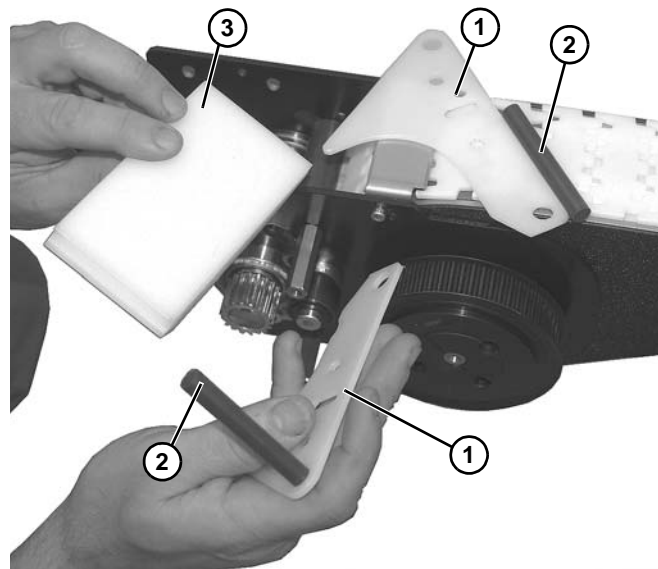

Figure 168
11. Disassemble side guide plates (**Figure 168, item 1**), wear rods (**Figure 168, item 2**), and wear bar (**Figure 168, item 3**). Replace worn components.